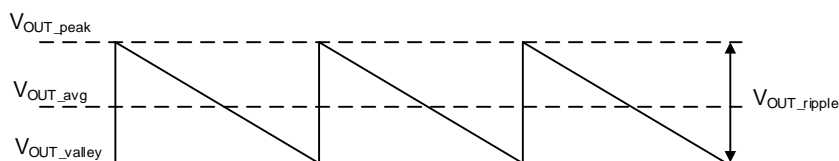

Figure 3. Output Voltage Waveform
Since the RT5716 adopts valley control in PFM mode, which means that the switching node (SW) starts to switch when the output voltage drops to the valley voltage (see Figure 3), the average output voltage (V_{OUT_ave}) can be calculated by Equation 1: